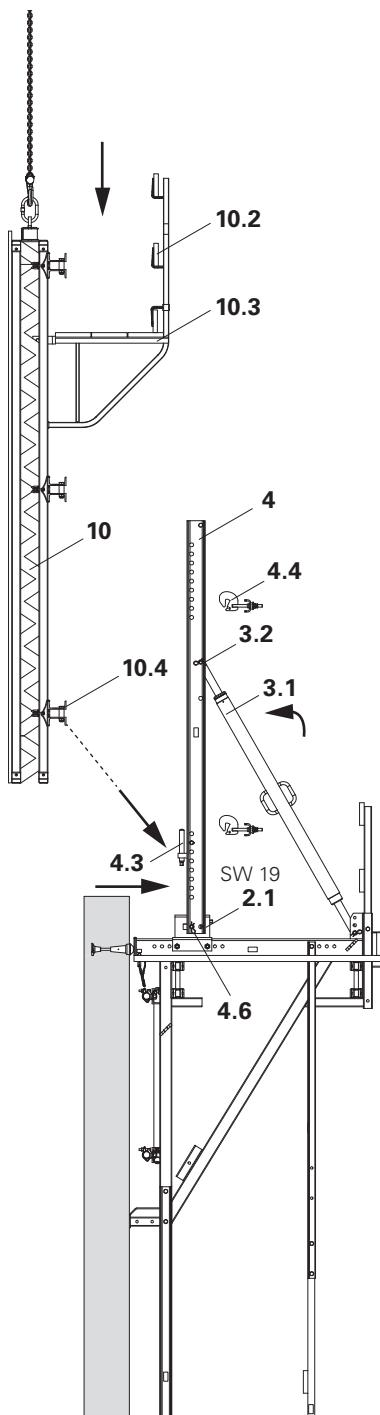

Fig. B2.07
5. Lower formwork (10) with the bottom waler (10.4) onto the height adjusting unit. Lifting gear remains tensioned.
6. Fix strongback connector (4.4) to the walers. (Fig. B2.07)